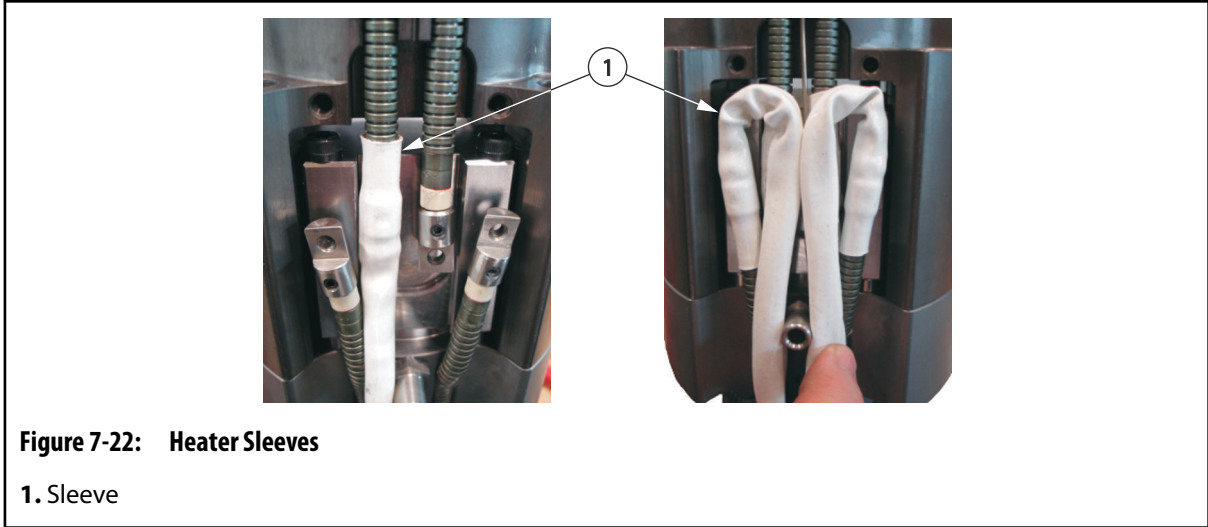

Figure 7-22: Heater Sleeves
- 17. Position the heater leads as shown in Figure 7-22.